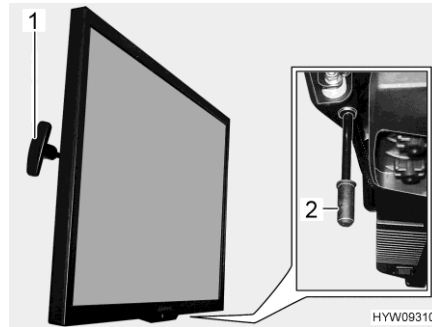

Fig. 103 Flat screen
- Pull and hold handle (Fig. 103,1). The flat screen is unlocked.
- Pull down the handle (Fig. 103,2) and hold it there. The flat screen is unlocked.